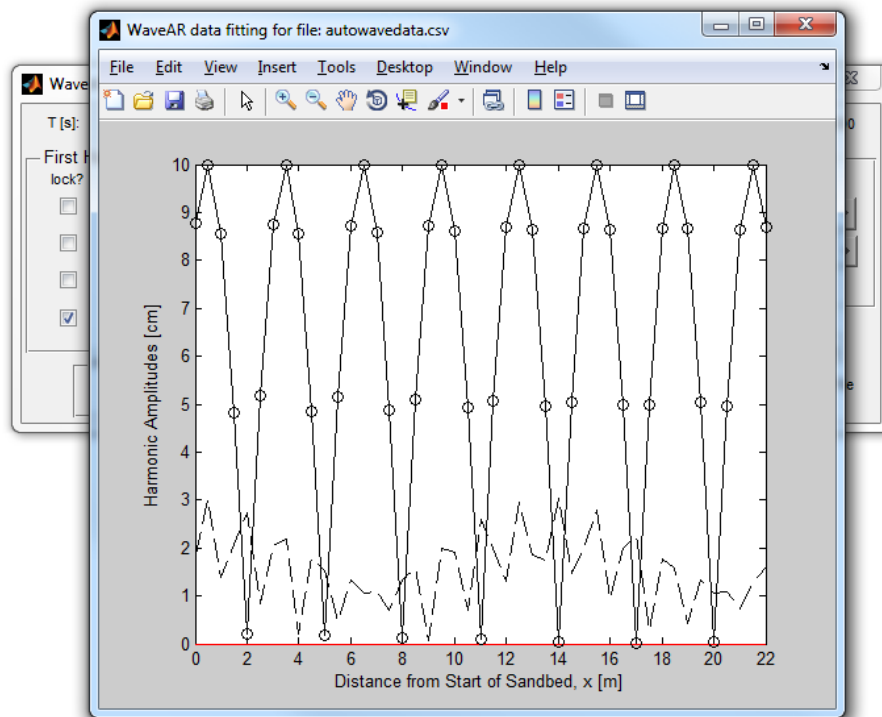
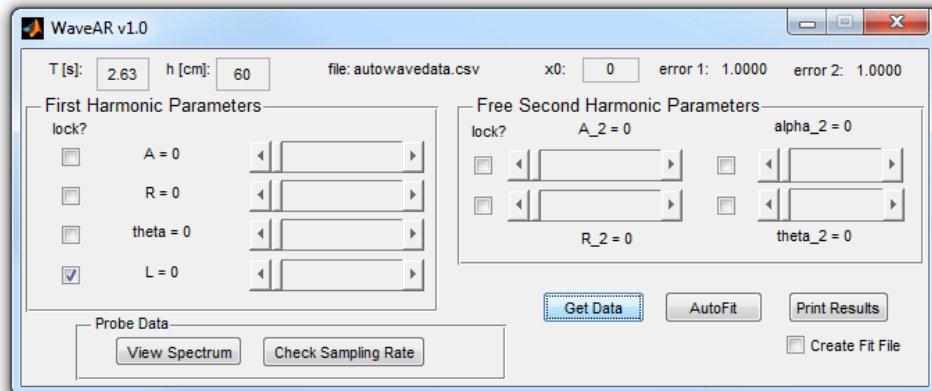

Figure 4. WaveAR data fitting window appears after data is loaded.
Figure 5. Main WaveAR GUI with “First Harmonic Parameters”, “Free Second Harmonic Parameters”, and “Probe Data” panels which appear after loading data.
- 3) Once the data file is loaded successfully, the “**WaveAR data fitting**” window appears (Figure 4) and the main WaveAR GUI now has “**First Harmonic Parameters**”, “**Free Second Harmonic Parameters**”, and “**Probe Data**” button panels (Figure 5).